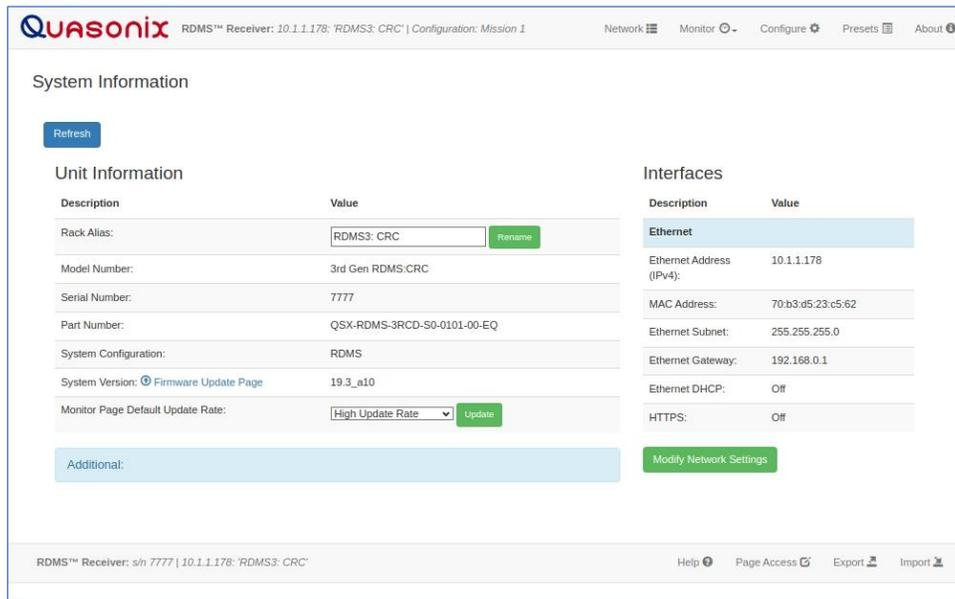

Figure 145: About Screen, System Information
10. Navigate to the About screen, as shown in Figure 145, to verify that the System Version matches the firmware update version.